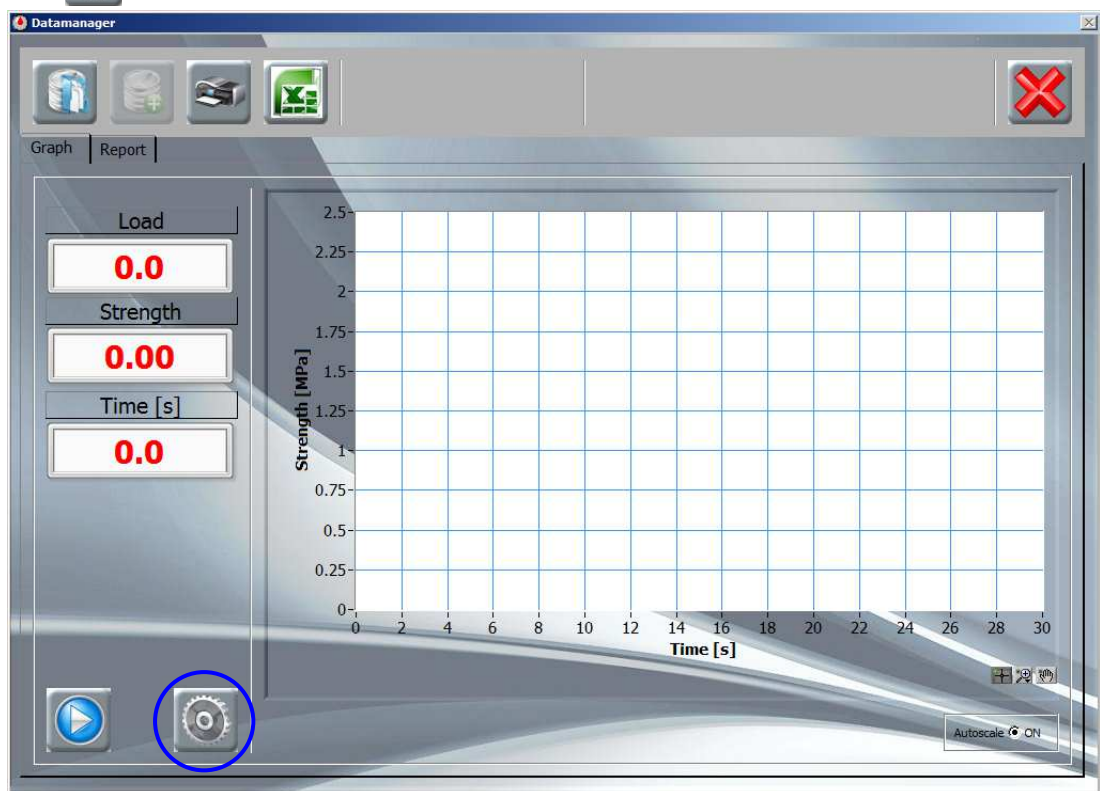

Fig. 6-15
3.  Click the **Test settings** button in the **Graph window** (see Fig. 6-15).